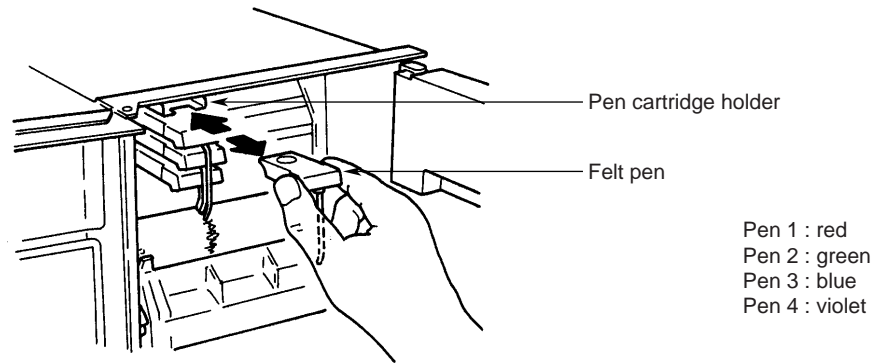

Figure 5.7
- 3 Grasp the protruding part of the felt-tip pen cartridge and gently pull/slide it out of the cartridge holder (see figure 5.7).
Insert a new felt pen cartridge in the pen cartridge holder (see figure 5.7). Start with the smallest pen.